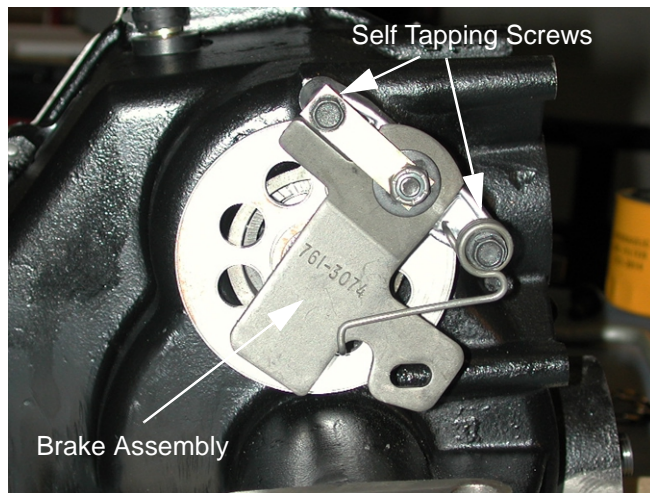

Figure 14
19. Remove both self tapping screws securing the brake assembly to the transmission housing using a 3/8" socket. See Figure 14.